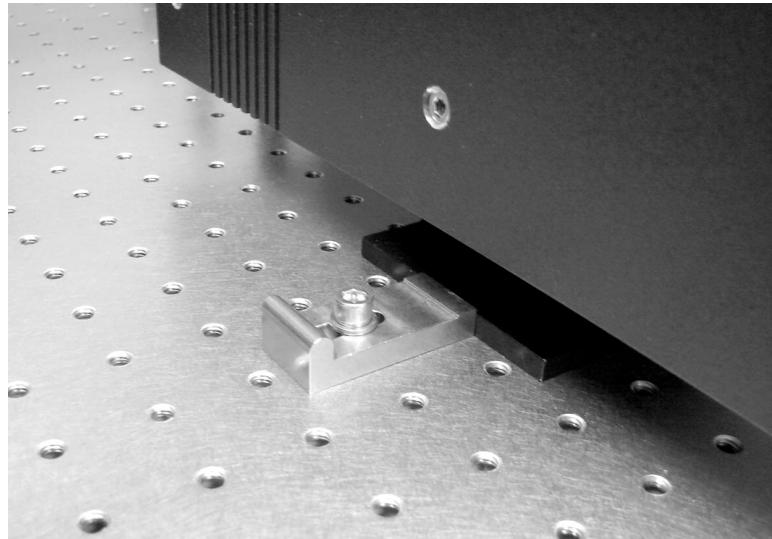

Figure 3-4. Micra Front Foot Clamp Orientation
3. Do not clamp on top of the front foot. Install the foot clamp upside down, pushed against the front foot, as shown in Figure 3-4.